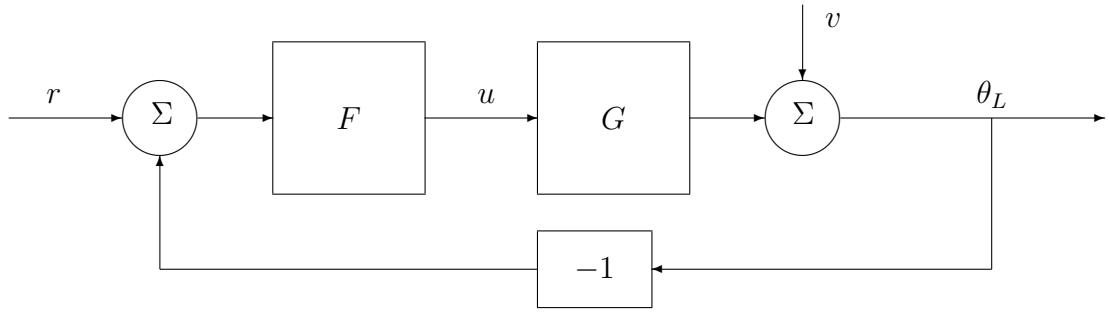

Figure 3: Control system.
First we want to control the system using only a proportional controller. This is shown in Figure 3 where  $F(s) = K$ . The signal  $v$  is a disturbance that will be considered later, for now disregard it, i.e.,  $v = 0$ .
**Assignment 8.** Calculate and plot the Bode diagram of the sensitivity functions  $S(s)$  with the proportional controller **and** with the controller  $F(s)$  from Assignment 6 in the same plot (*hint: Bodemag(S1, S2)*). The sensitivity function is the transfer function from  $v$  to  $\theta_L$  in Figure 3. For which frequencies do the controllers attenuate the effect of disturbances on the output? For which frequencies are the effect of disturbances amplified?